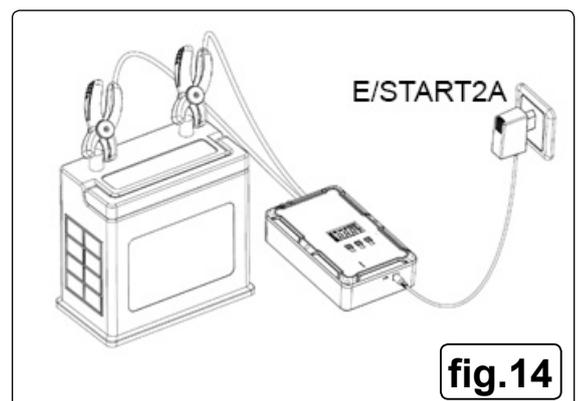

fig.14
5.10.2.1. Connect the E/START as in fig.14 and press the charger button (fig.10) to commence charging.